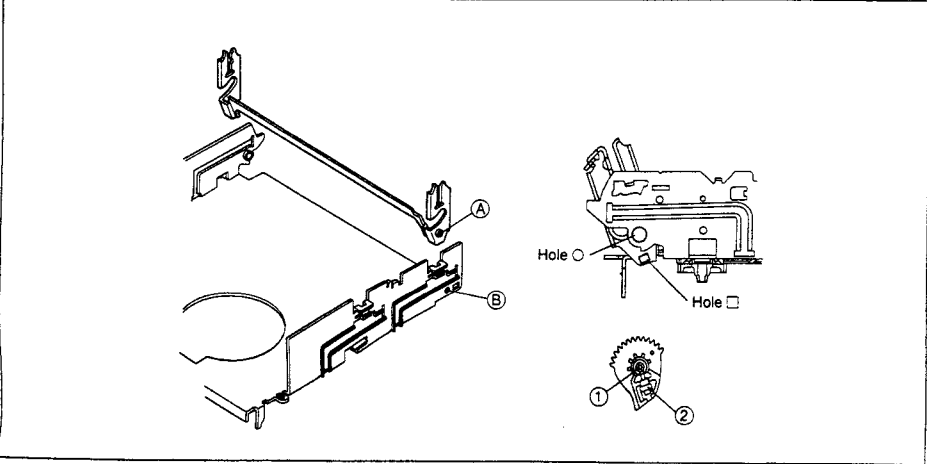

Fig. 2-2-31
- (1) Insert section A of the drive arm into section B of the main deck.
- (2) Insert section ① of drive gear into hole O of the drive arm and section ② into hole □. (See Fig. 2-2-31)